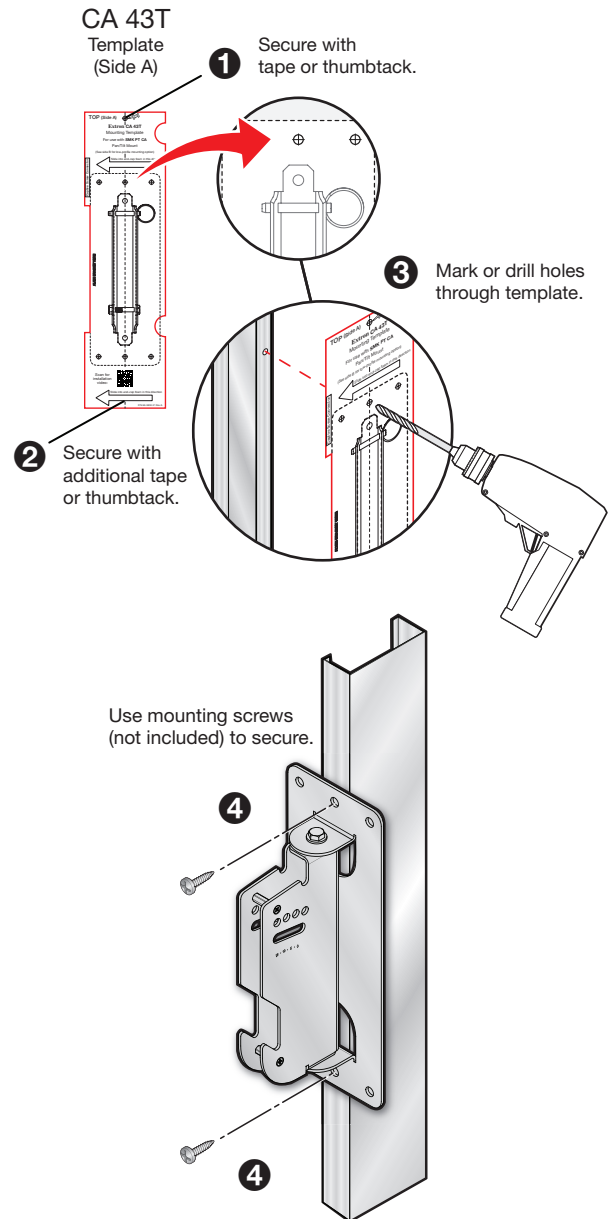

Figure 10. Securing Wall Bracket Assembly
1. Position the included CA 43T mounting template, side A (see figure 10 on the right) to the wall where you want to mount the speaker. Use pushpin or tape to secure template to the wall (1). Ensure the template is level and secure the bottom with an additional pushpin or piece of tape (2).